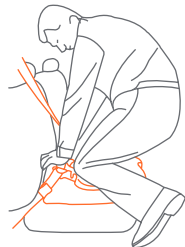

Fig. 40-3
- Proper installation of the Safety Seat or Base requires that the seat belt be very tight. To tighten the seat belt, push down hard with your knee or hand on the Safety Seat or Base while pulling and tightening the seat belt. **Check that there is no slack in the seat belt on either side of the Safety Seat or Base, or anywhere along the path of the belt, and that the seat belt is tight from end to end** (Fig. 40-3 and 40-4).